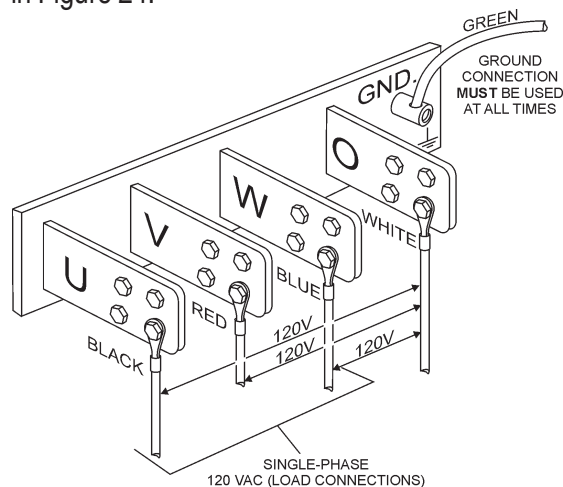

Figure 24. UVWO Terminal Lugs 1Ø-120V Connections
2. Connect the load wires to the UVWO terminals as shown in Figure 24.